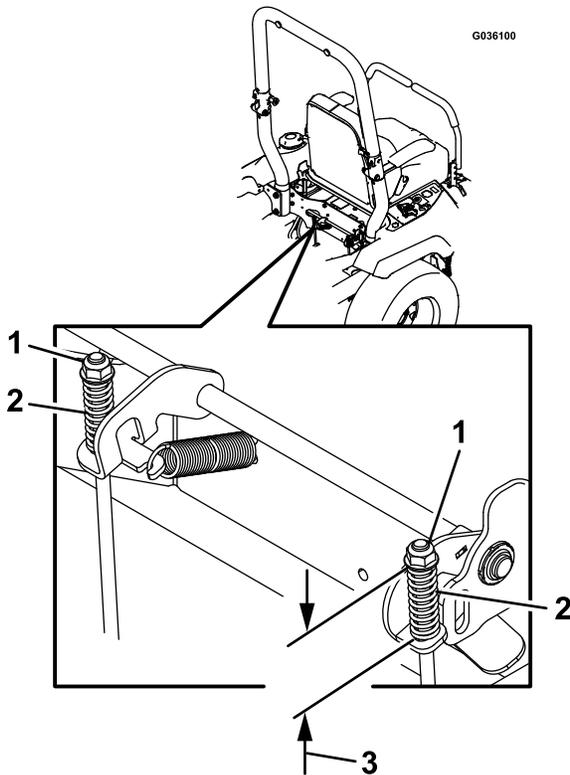

Figure 72
7. Check both spring lengths as shown in Figure 72. If an adjustment is necessary, turn the top nut clockwise to shorten the spring and counterclockwise to lengthen it.